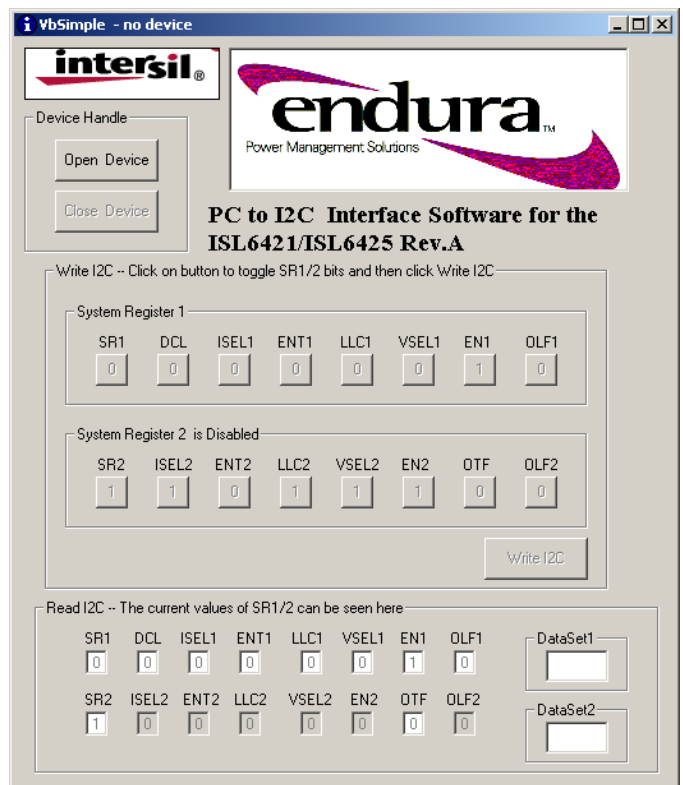

FIGURE 3. PC TO I²C APPLICATION WINDOW
9. Run the ISL6421A_I2C.exe program copied to C:\some directory'. Figure 3 shows the PC to I²C software application window. Click the 'Open Device' button.